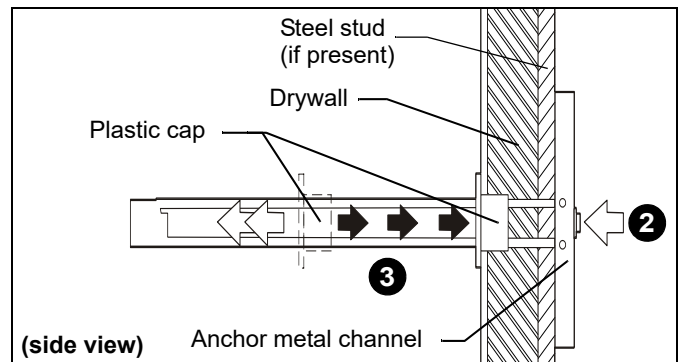

Figure 31
2. Holding plastic straps on anchor, pull anchor away from wall until channel rests flush behind wall making sure anchor channel is positioned vertically on drywall, or steel stud (if present). (See Figure 31)
3. Slide plastic cap on anchor towards wall until flange of cap is flush with wall. (See Figure 31)